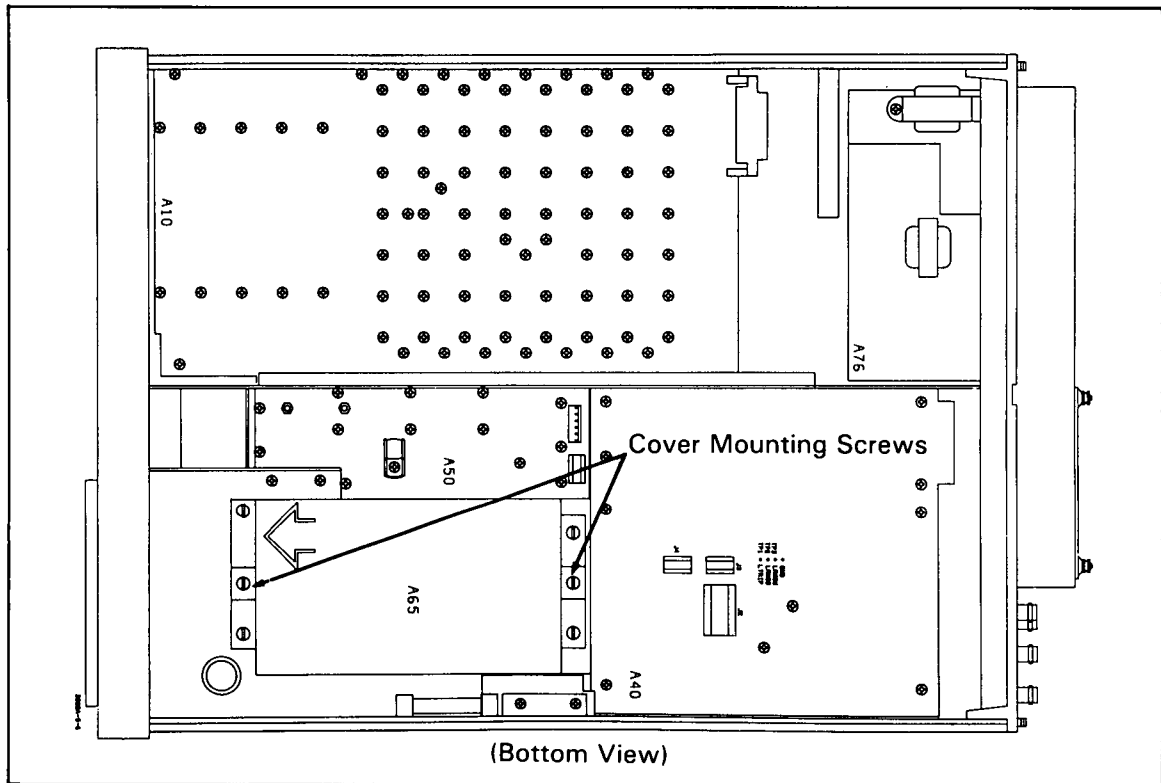

Figure 5-6. High Voltage Cover Mounting Locations
- m. Remove the aluminum cover from high voltage section (see Figure 5-6 for screw locations) on the bottom side of the 3585.